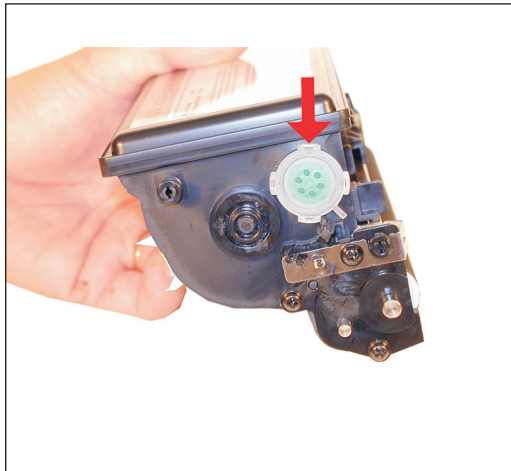

Figure 12
9) Remove the fill plug from the toner supply and dump/vacuum out the remaining toner. See Figure 12